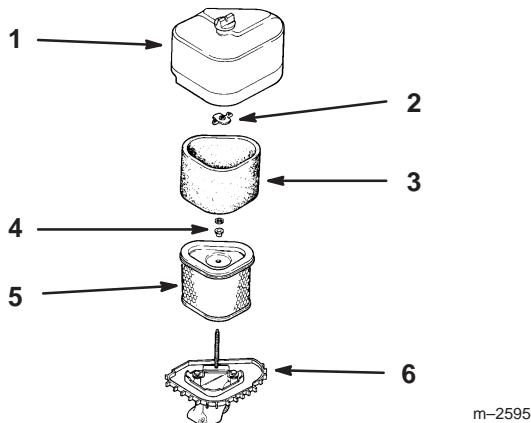

Figure 19
2. Clean around the air cleaner to prevent dirt from getting into the engine and causing damage. Unscrew the cover nut and remove the air cleaner cover (Fig. 19).
3. Remove the air cleaner assembly (Fig. 19).
4. Carefully slide the foam element off the paper element (Fig. 19).
1. Carefully slide the foam element onto the paper air cleaner element (Fig. 19).
2. Place the air cleaner assembly onto the air cleaner base (Fig. 19).
3. Install the air cleaner cover and secure with cover nuts (Fig. 19).